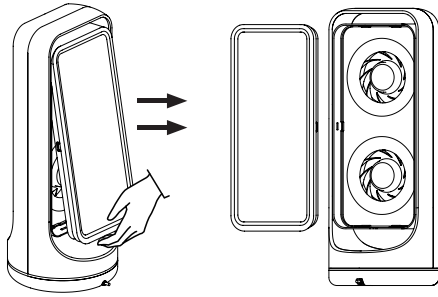

Fig.2
- ◆ Remove the plastic package from the filter (FIG2)